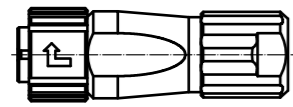

Fig. 2(1:1)
- ⑤ Fig.2 SHOWS THE APPEARANCE AFTER ASSEMBLY.
- ⑥ APPLICABLE CABLE ASSEMBLY FIXTURE : LF07BP-T01(CL150-0232-0)